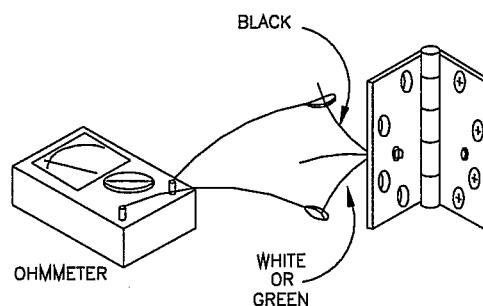

FIGURE 5
3. Set an ohmmeter to the resistance scale. Connect the black and either the white or green wire to the ohmmeter. See FIGURE 5